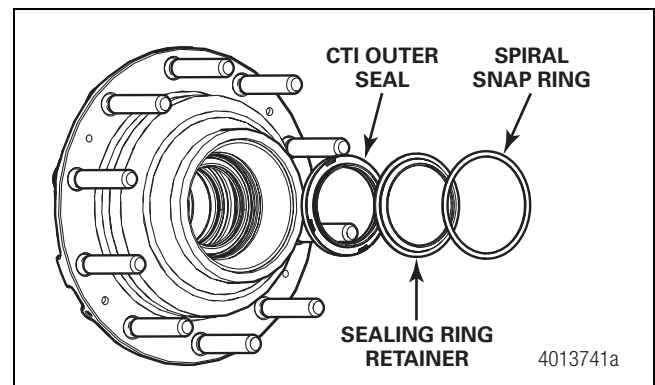

Figure 8.2
5. Remove the CTI outer spiral snap ring, seal retaining ring and seal. Figure 8.2.